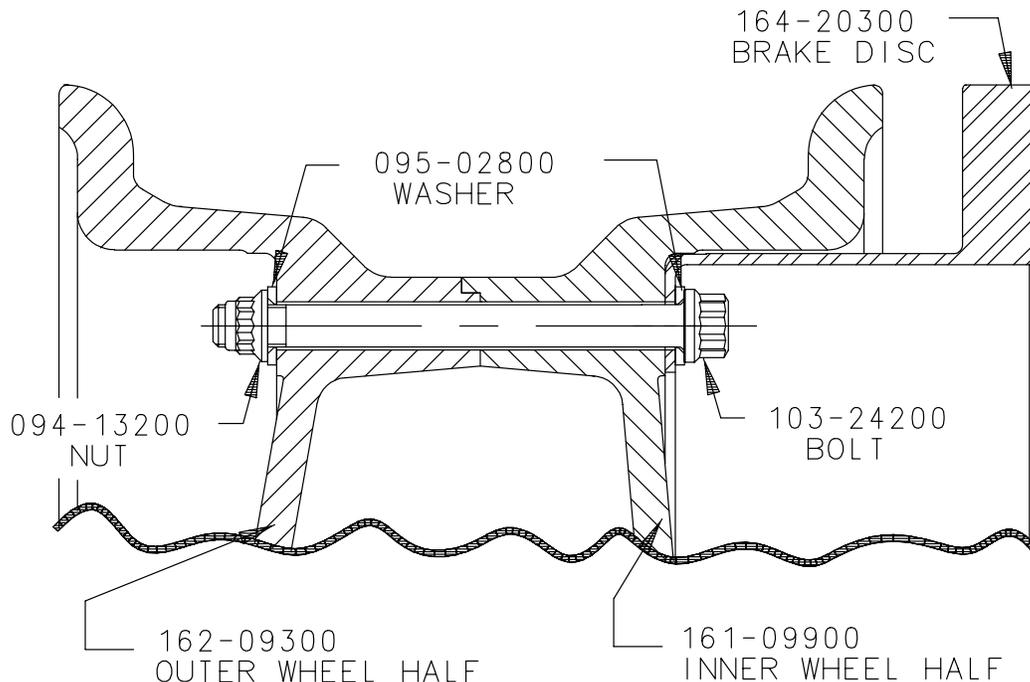

Figure 1
- C. Align wheel halves and slide tie bolt through outer wheel half assembly, P/N 162-09300. (See Fig. 1 on page 4.)